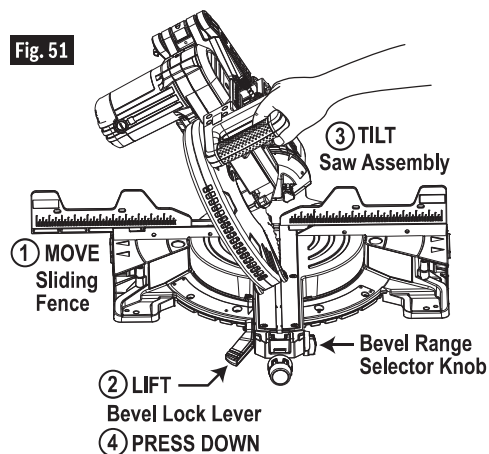

Fig. 51
1. Move the left sliding fence out to clear saw assembly and relock (Figure 51).
1. Move the right sliding fence out to clear saw assembly and relock (see Fig. 51).
1. Move the left and right sliding fences out to clear saw assembly and relock (see Fig. 51).